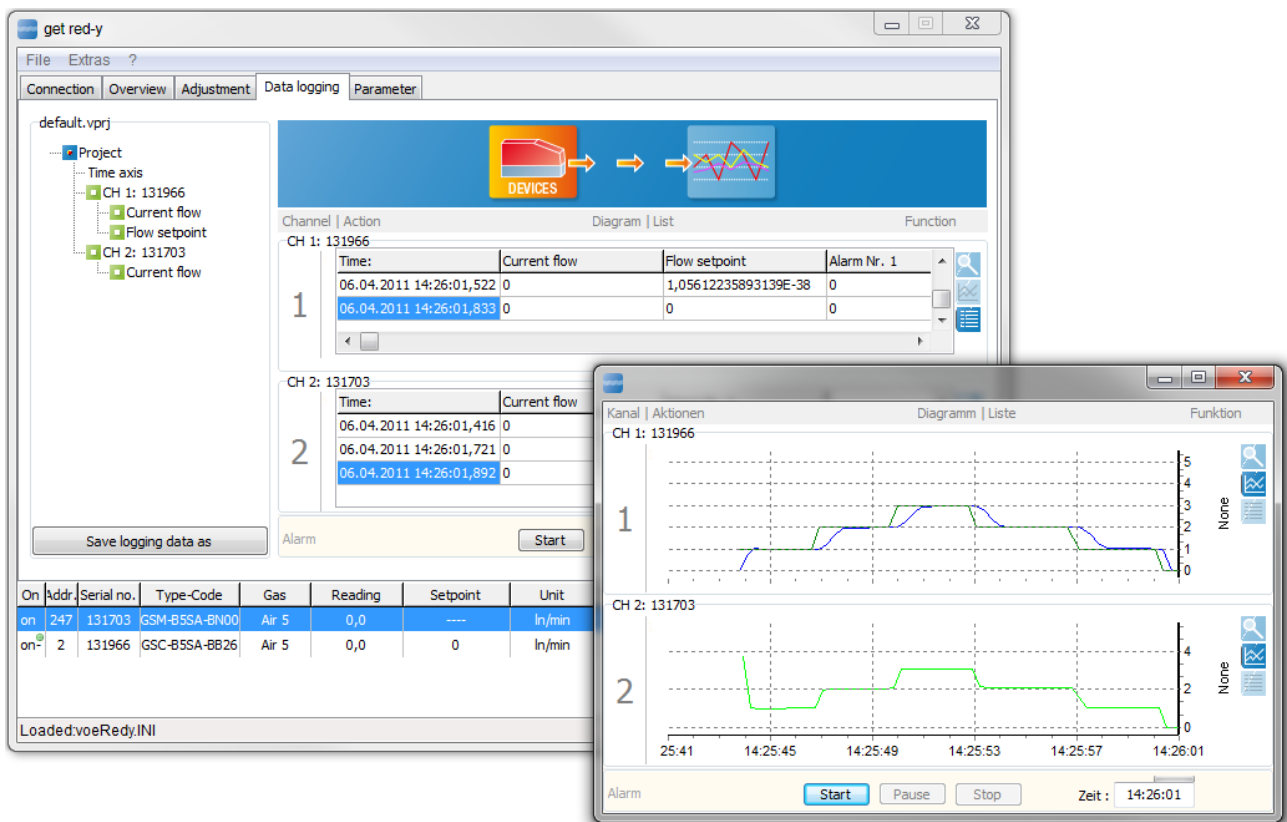

Figure 44: Representation of the measured values in tabular and graphic form
- The data of this channel is displayed in a separate window (See Figure 44).
- The data is displayed as a graph (See Figure 44).
- The data is represented in tabular form (See Figure 44).